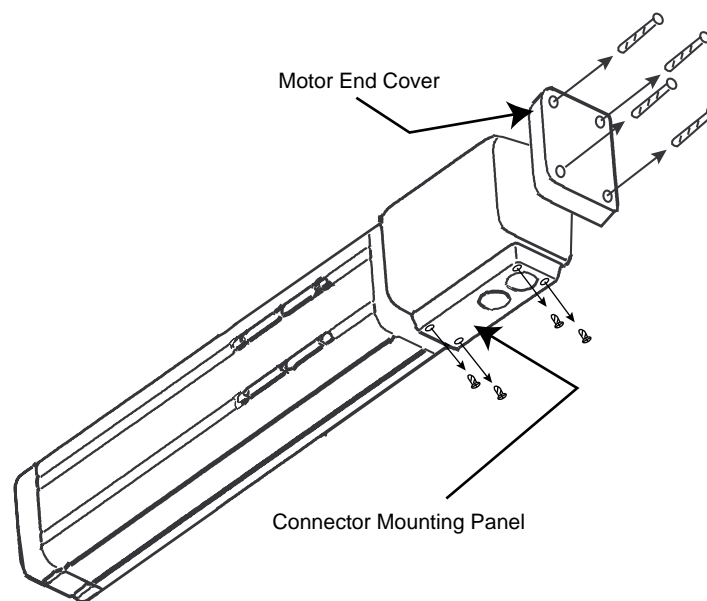

Figure C-1. Cover Screw Removal
1. Remove the four screws on the connector mounting panel (see Figure C-1).
2. Remove the four screws on the motor end cover and remove the end cover panel (see Figure C-1).